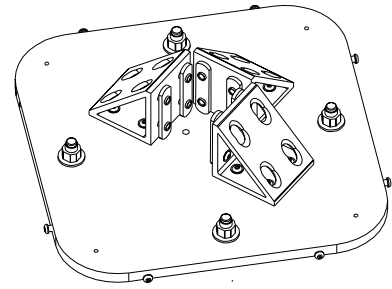

Figure 7
2. Place three (3) Gusset/T-nut assemblies onto the base plate as shown in Figure 7 and secure using four (4) 5/16-18 cap screws per gusset. Do not tighten, hardware will be tightened when support columns are placed onto the base. Start all base shield screws into base for use later. Leave about 1/4 inch protruding.